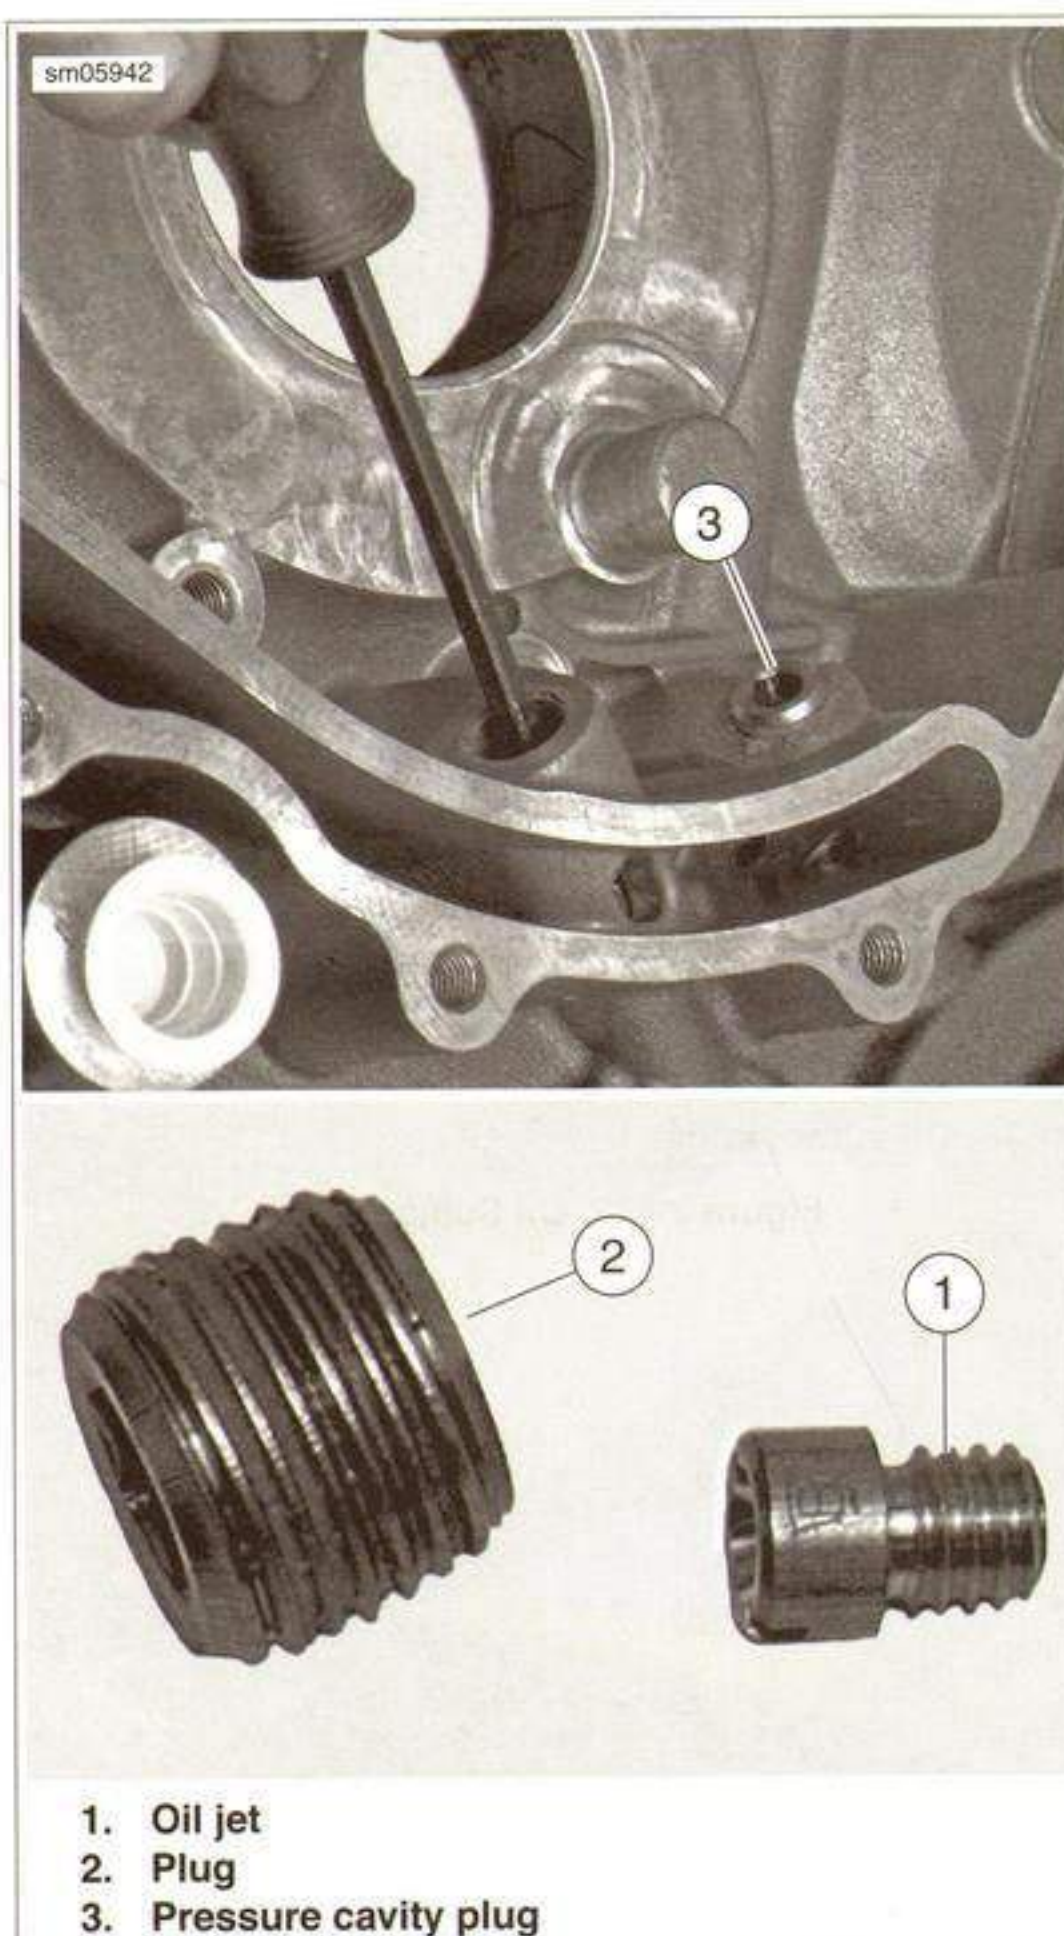

Figure 3-178. Clutch Shaft Bearing and Pressure Cavity Oil Plugs: Left Case
See Figure 3-178. Hand tighten the threaded jet (1) into the clutch shaft bearing.
See Figure 3-178. Apply LOCTITE 243 (blue) to the plug (3) threads and tighten to 12 Nm (106 in-lbs).